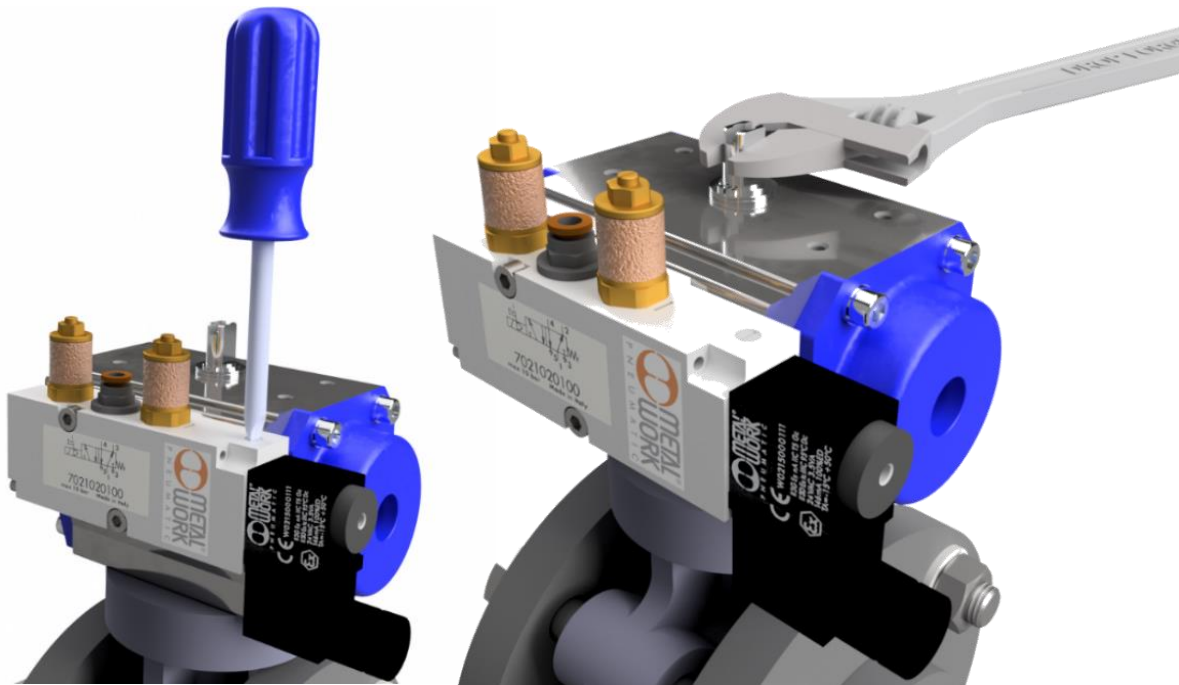

Figure 3: Manual adjustment Envalve
The Envalve can be remotely operated, by means of the electro-pneumatic valve. This valve is connected to the pneumatic drive. There are two possibilities when the Envalve needs to be manually adjusted. Figure 3 illustrates these possibilities.
1. Under preservation of air pressure, the set screw of the electro-pneumatic valve can be rotated from the "0-position" to the "1-position" by a flat screw driver. If air pressure is maintained, this will cause the butterfly valve to open or close, depending on the valves configuration. (left option in Figure 3)